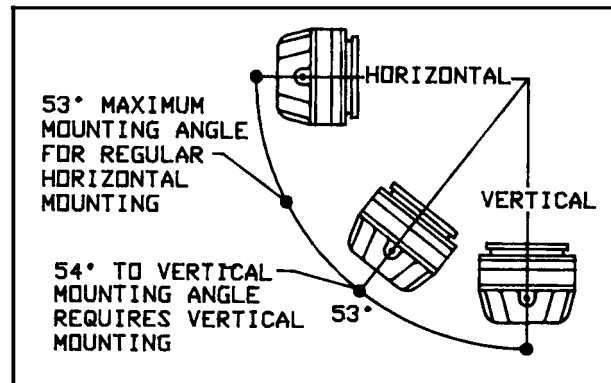

Figure 3-14
3. Remove air breather #45 and reducing bushing #76 (See Figure 8-1). Install pipe plug #261 (See Figure 3-14).